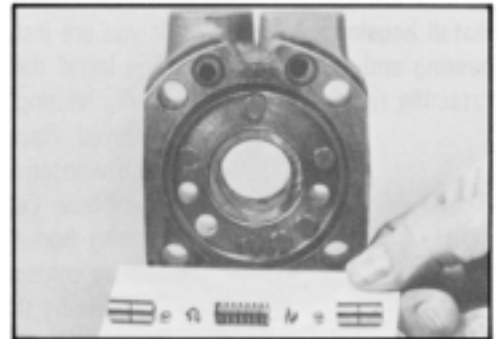

Figure 105
6. Assemble a ball (15F) and conical spring (15G), small end first, into the two check valve plungers (15E) if they became disassembled. Assemble one check valve plunger assembly, a spring (15D) and then the other check valve plunger assembly into the remaining valve body plunger hole as shown in the exploded view. The spring end of the check valve plungers must face each other when assembled in valve body. SEE FIGURE 105.